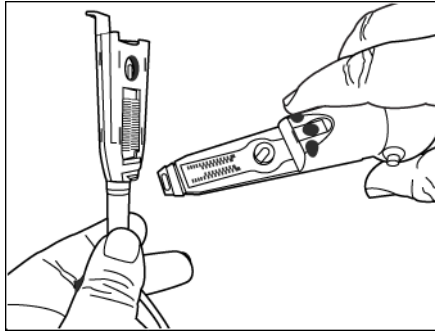

Fig. 6 Position the probe connector and handle in hand
- 4 Position the probe connector and handle as shown in Figure 6.